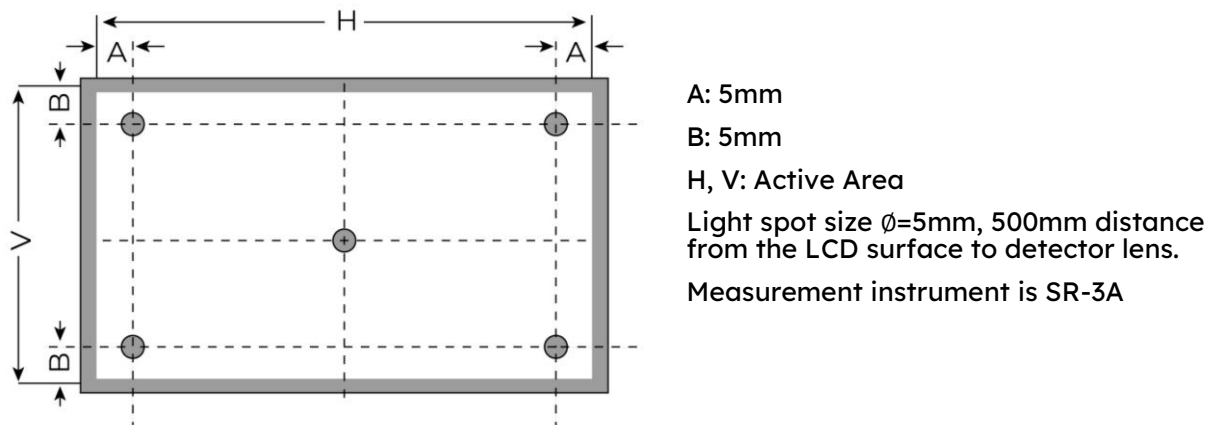

Figure 3. Measuring method for Contrast ratio, surface luminance, Luminance uniformity, CIE (x, y) chromaticity
Note 1. Contrast Ratio (CR) is defined mathematically as below, for more information see Figure 3.
Note 2. Surface luminance is the LCD surface from the surface with all pixels displaying white. For more information see Figure 3.
Note 3. The uniformity in surface luminance δ WHITE is determined by measuring luminance at each test position 1 through 5 and then dividing the minimum luminance of 5 points luminance by maximum luminance of 5 points luminance. For more information see Figure 3.